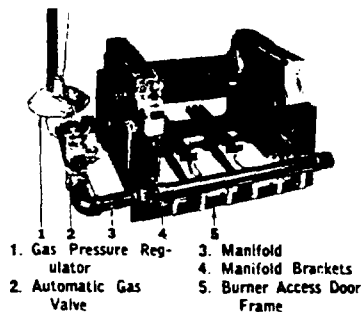

FIG. 4—Manifold and Piping
2. Assemble sub-assemblies of manifold, manifold piping, automatic gas valve and gas pressure regulator or automatic pilot valve and attach to boiler. See that orifice spuds in ends of spud holders are screwed in tight and that orifices are drilled to size specified on tag attached to manifold. (See Fig. 4)